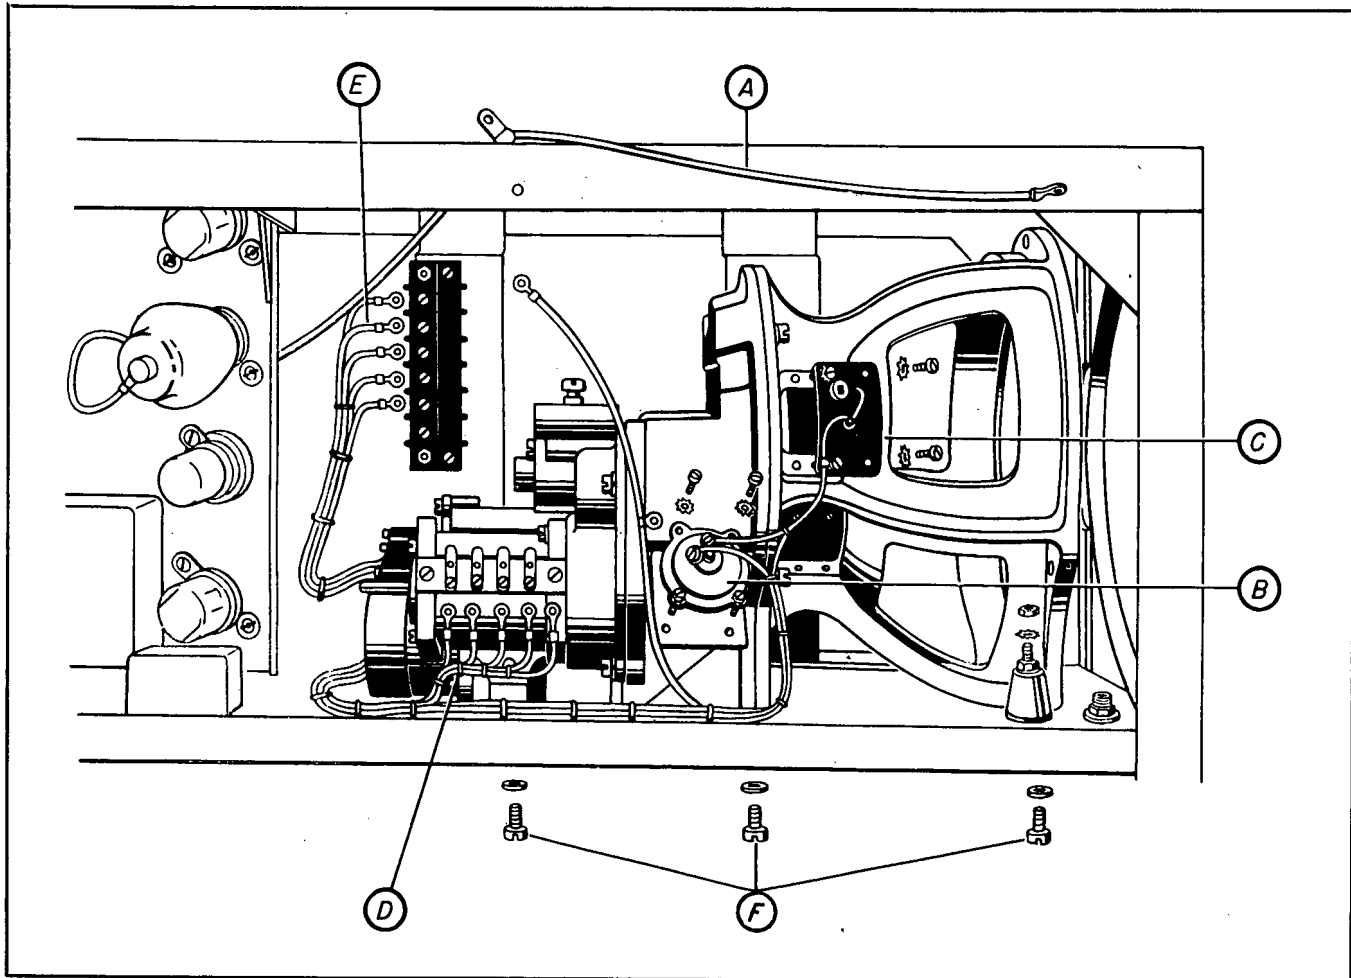

Figure 7-52. Removing PPI Assembly from Chassis
3. Remove the insulated lead as indicated by step A in Fig. 7-52.
4. Remove the thermostat. See step B in Fig. 7-52.
5. Remove brush holders. See step C in Fig. 7-52.
6. Remove the drive motor connections as shown by step D in Fig. 7-52.
7. Remove synchro connections. See step E in Fig. 7-52.
8. Remove the six screws that hold assembly to the chassis. Three of these screws are shown in step F in Fig. 7-52.